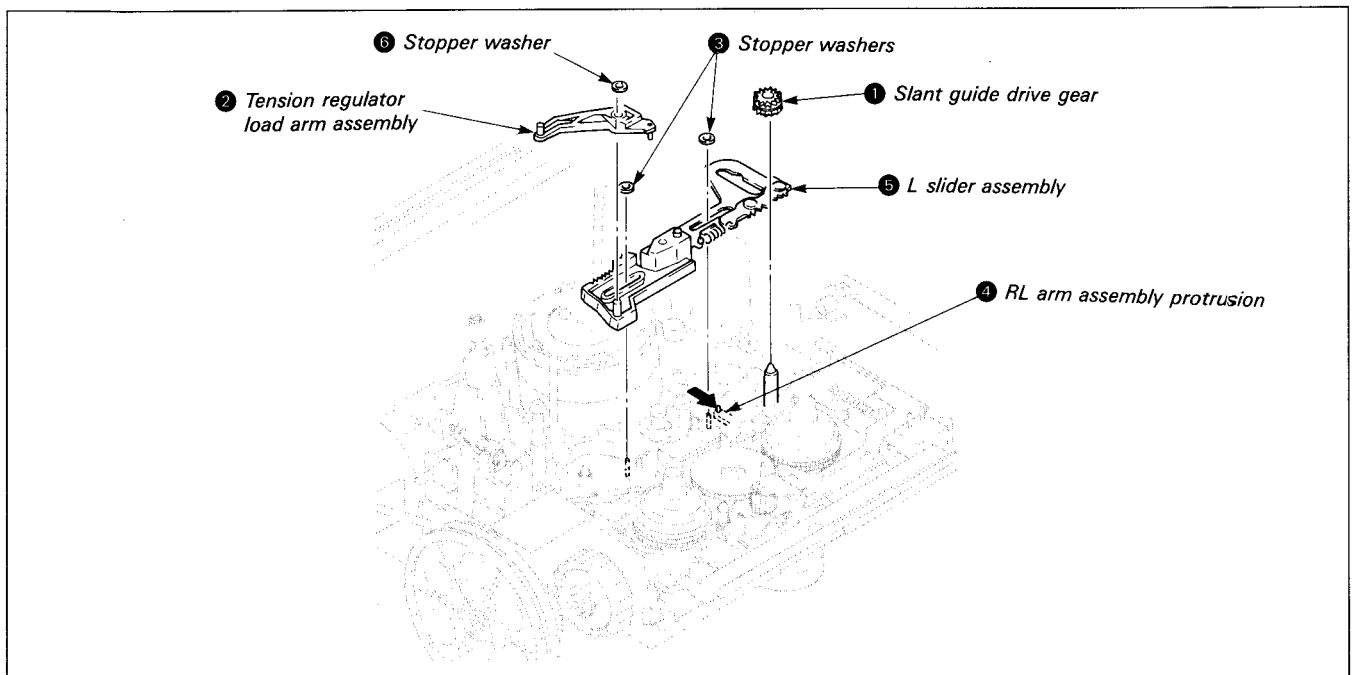

Fig. 7-30.
### 7-3-11. L Slider Assembly (See Fig. 7-30. ~ 32.)
- 6) Remove the tension regulator load arm assembly according to 7-3-11., 1. Removal, 8). (See Fig. 7-30.)
- 7) Remove tension spring ①.
- 8) Remove the two stopper washers ② and remove the S main brake assembly ③ and T main brake assembly ④.
- 10) Remove the screw ⑤ and the drive assembly ⑥.
- 12) Remove the two tension springs ⑦.
- 13) Remove REW brake assembly ⑧.
- 14) Remove stopper washer ⑨ and B release slider ⑩.
- 15) Remove stopper washer ⑪ and ring lock spring ⑫ and RL arm ⑬.
- 16) Move the M slider ⑭ to the right (leave about 5 mm at the left.)